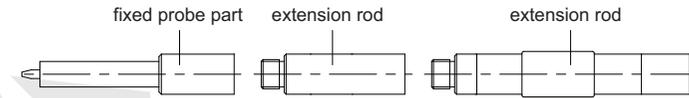

Fig.4
- According to the measured workpiece to select extension rod, the number of extension rod is less to reduce accumulated errors. The longest one connects to sleeve first, and decrease in length in turn, the shortest is the last one. Install extension rod, first take down fixed probe part, and extension rod connects to thimble(Fig.4).